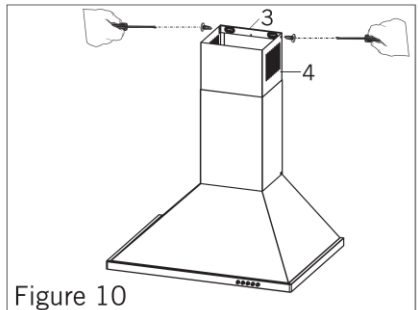

Figure 10
- Then fix the upper part of the chimney to support **3** using screws **2** (3.5 x 9.5 mm), see figure 10.